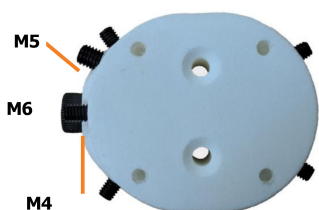

Figure 17c
- For **all sockets**, add the following screws (Figures 17c, 17d):